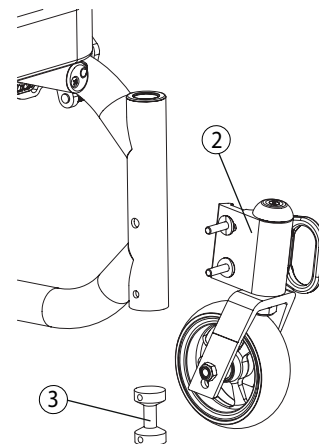

Fig. 20
- Remove caster housing (2) (Fig. 20).
- Slide the Caster Housing Plug out of the frame (3).